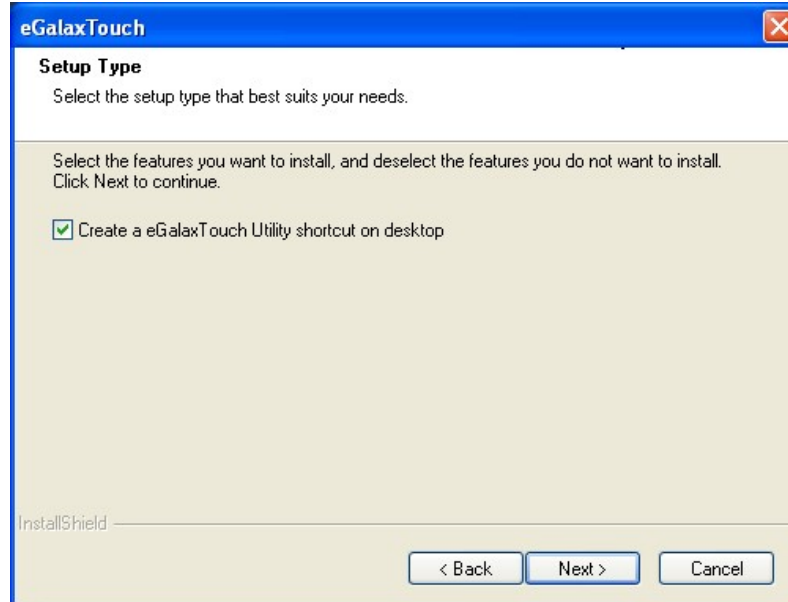

Figure 6-43: Create the Utility Shortcut on Desktop
Step 11: Check the box to create the utility shortcut on the computer desktop (Figure 6-43) and click **Next** to continue.